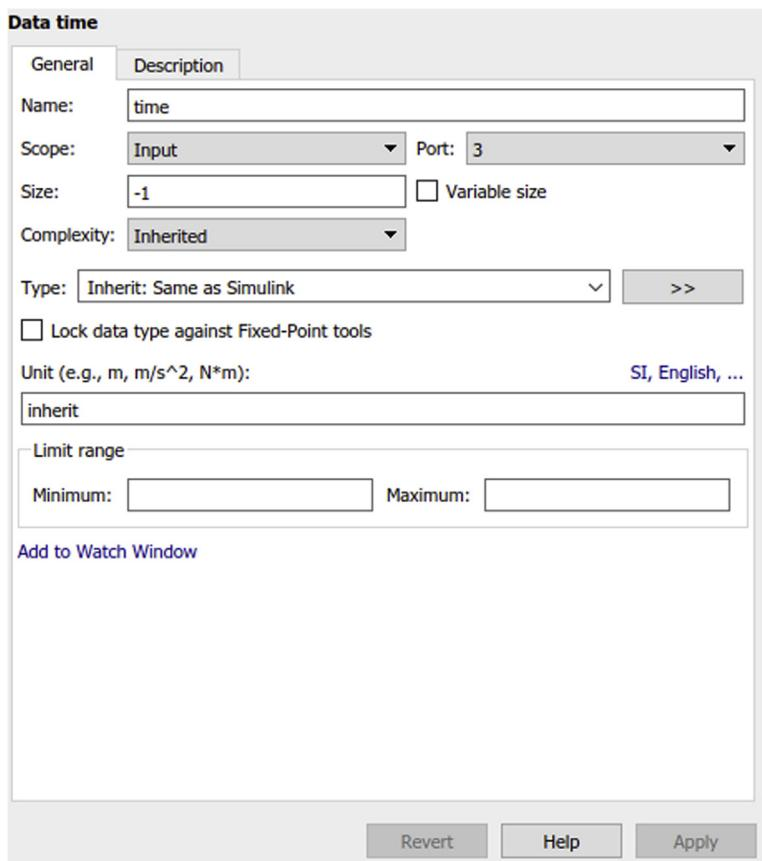

Figure 10.38 “Time” parameter settings.
18. Name the two new parameters as time and State, respectively. Click on each of the two new parameters and enter the settings on the right side as shown in Figs. 10.38 and 10.39. Rename the first input as Wind_speed instead of PWM_Command. Close the explorer window once done.